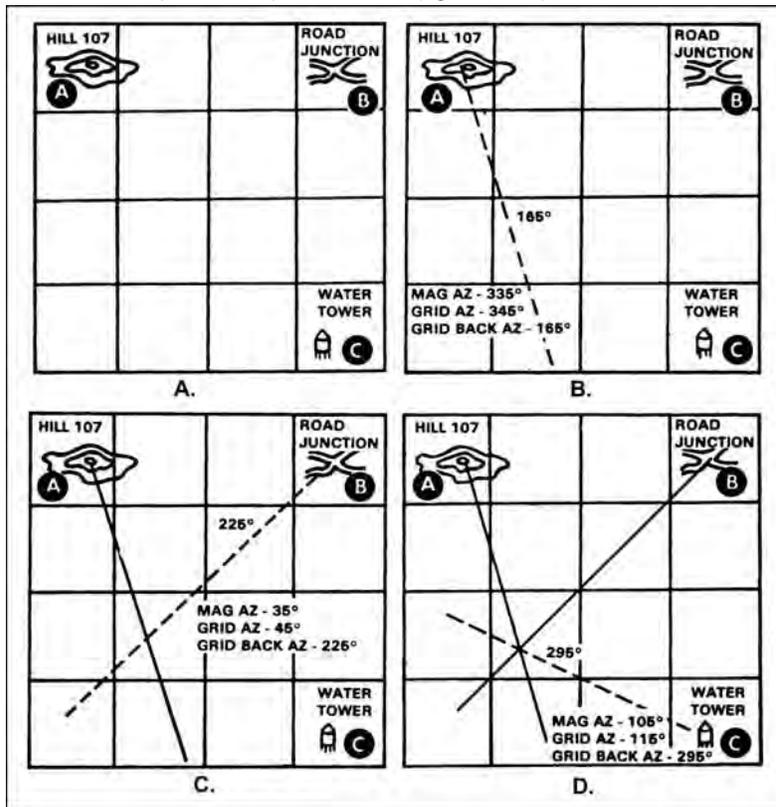

Figure C-37. Using the map and compass
1. Use the map and compass method (figure C-37).
b. Locate two known positions on the ground and mark them on your map (A, figure C-37).
c. Using your compass, measure the magnetic azimuth to one of the known locations; change it to a grid azimuth (B, figure C-37.)
(1) If it is a westerly G-M angle, subtract the number of degrees in the G-M angle from your magnetic azimuth.
(2) If it is an easterly G-M angle, add the number of degrees in the G-M angle to your magnetic azimuth.
f. Repeat steps 1c through 1e for a second (C, figure C-37), and third (D, figure C-37) known position.